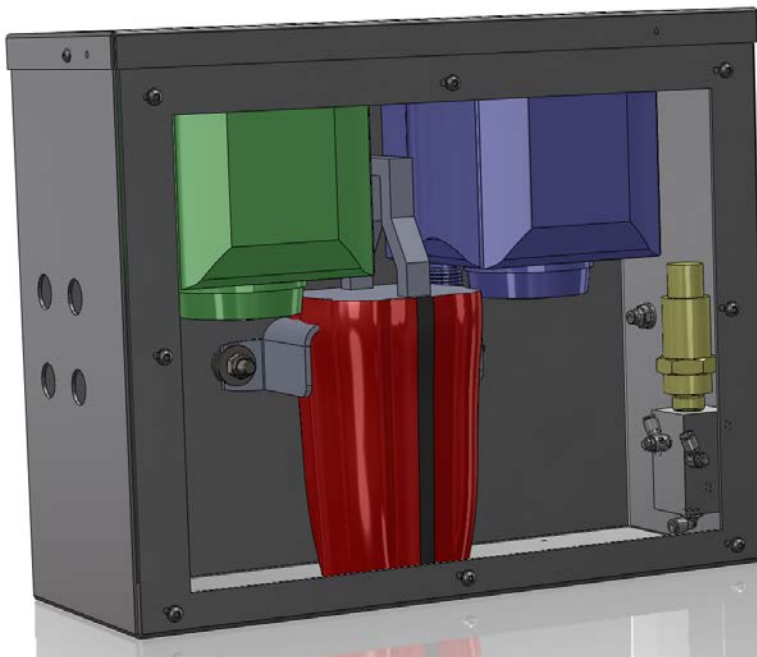

Figure 20 Online Air Monitoring Cabinet
- unbolt and remove the online monitoring cabinet (Figure 20)